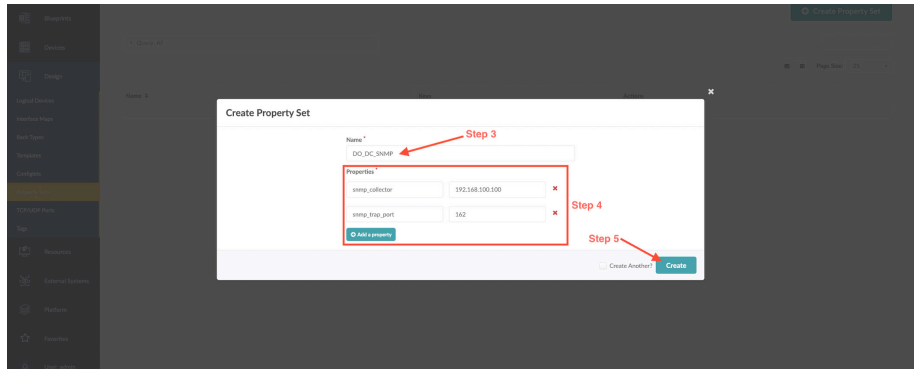

Figure 7.17 Creating a Property Set
Step 1: Go to Design > Property Sets. See Figure 7.17.
Step 3: Assign a Name to the Property Set. See Figure 7.17.